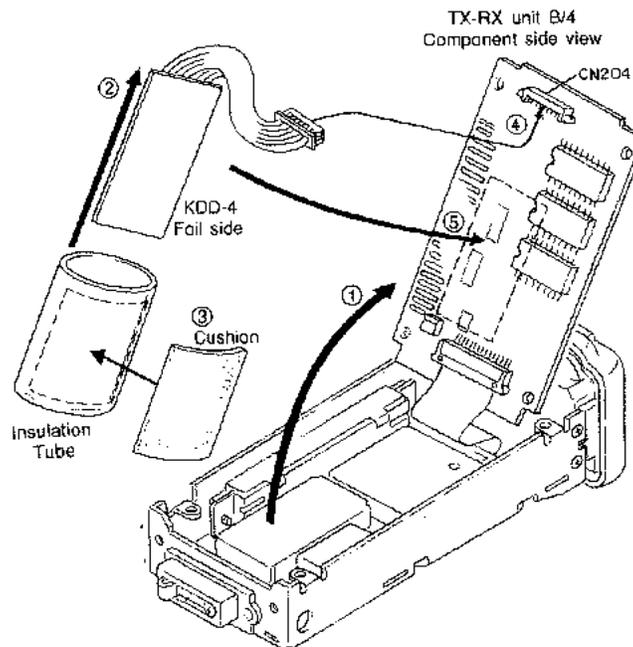

Fig. 7
- Remove TX-RX unit B/4 (①). (Fig. 7)
- Cover the entire KDD-4 with the supplied insulating tube (②).
- Attach the double-sided adhesive cushion to the insulating tube (③) (on the insulating tube on the soldered side of the KDD-4).
- Insert the KDD-4 lead connector into CN204 on the component side of the TX-RX unit B/4 (④).
- Fix the KDD-4 covered with the insulating tube on TX-RX unit B/4 with the cushion facing down. (See Figure 7 for the fixing location (⑤)). If it is not fixed correctly, it will touches other components.)